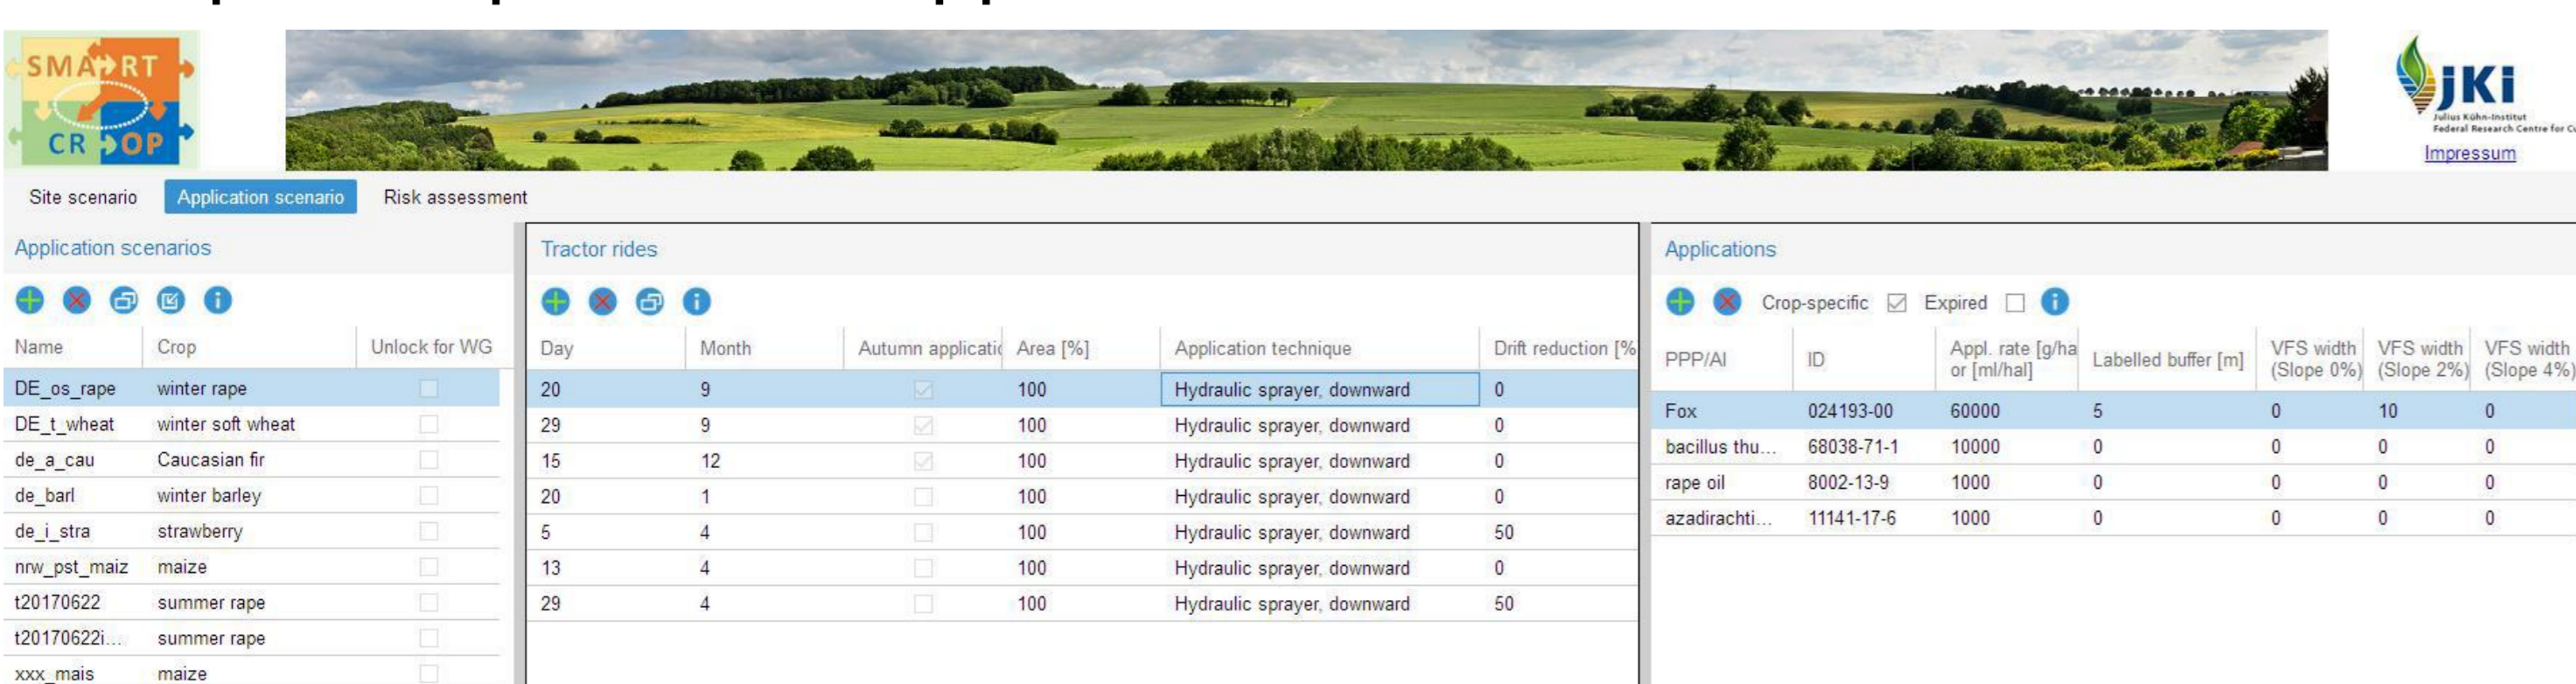

Fig. 2: Application scenario interface: crop, tractor rides and chemicals applied
- Application scenarios include crop, chemicals, amounts applied, spraying dates and related variables as follows (Fig. 2):